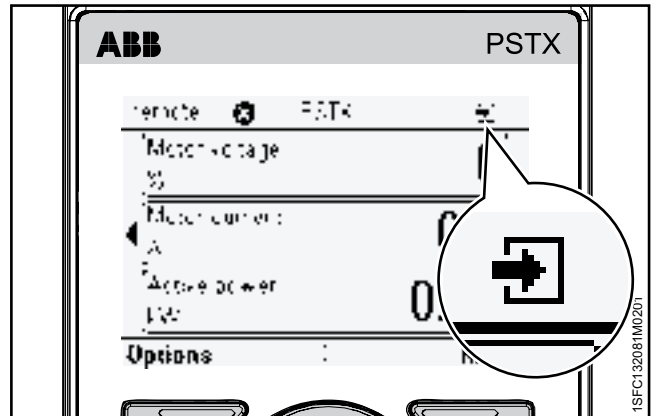

Figure 6.11
2. User profile Basic, Advanced or Service. See **Figure 6.11**